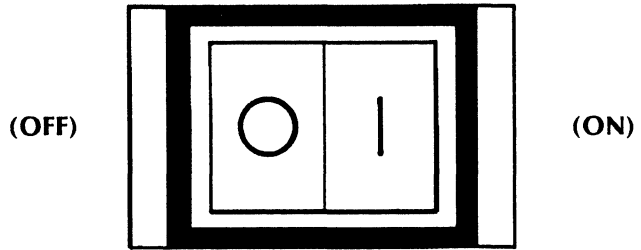

Figure 2-6 **Power switch**
1. Make sure the **Power** switch, located on the top left of the printer, is in the OFF position. Figure 2-6 shows the international symbols **O** for off and **I** for on.